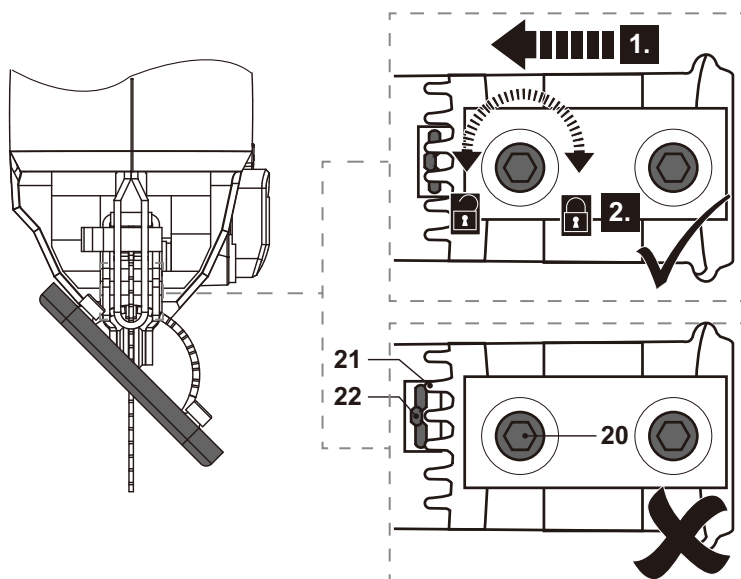

Fig. 9
- > Slide the base plate (11) forward to engage the teeth (21) to the pin (22) (Fig. 9, step 1).
- > Tighten the 2 hex bolts (20) with the hex key (6) (Fig. 9, step 2).